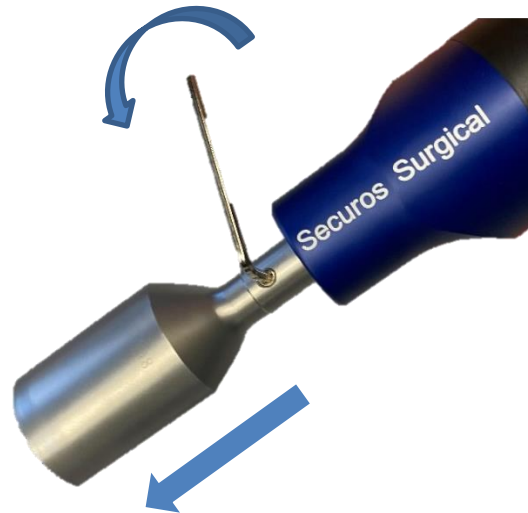

fig.3:
2. Apply hex wrench to hex screw on the connector shaft. (see fig.3).